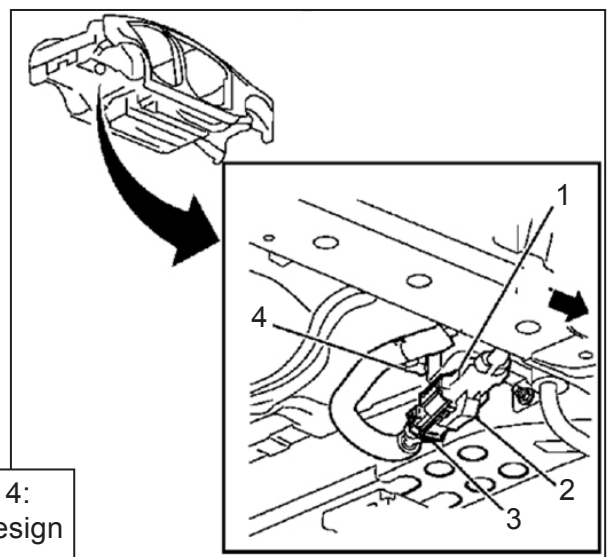

Figure 4:
- 2.5 Connect Battery Positive and Negative Cable Assembly (300 V) connector (3). Install CPA. **See Figure 4.**
- 2.6 Connect the High Voltage Interlock Harness connector (2). Install CPA. See Figure 4.
- 2.7 Secure Battery Positive and Negative Cable Assembly (300 V) to rear floor panel stud with integral retainer (4). **See Figure 4.**